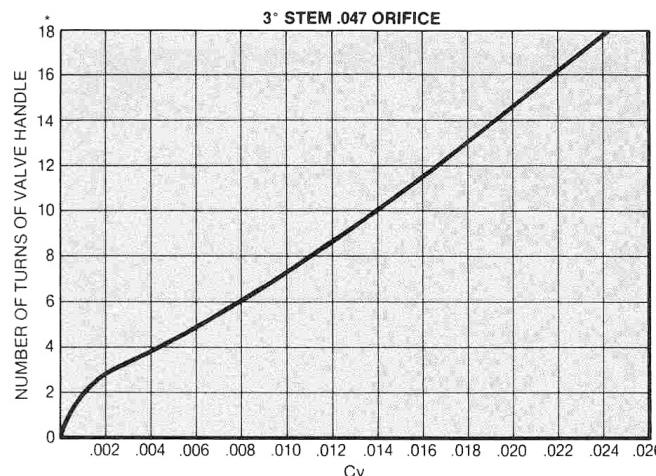

Figure 4-22
- The manufacturer's original C_V curve may be seen in Figure 4-22. Modification of the orifice on the valve and its replacement with another made of PEEK alters its C_V curve near to the closed position. Experimentally, an excellent regulating performance is achieved in C_V scenarios of 10^5 , that is, the modified valve accurately regulates flows of even 40 or 20 ml/min with pressures of 60 to 90 bar.